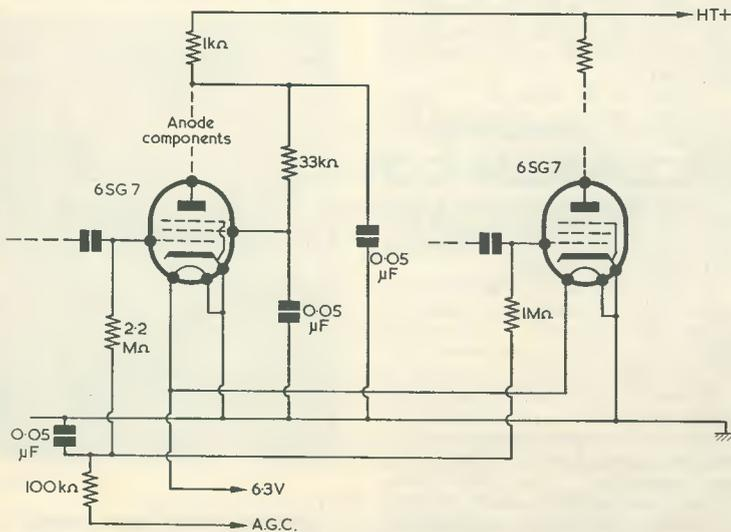
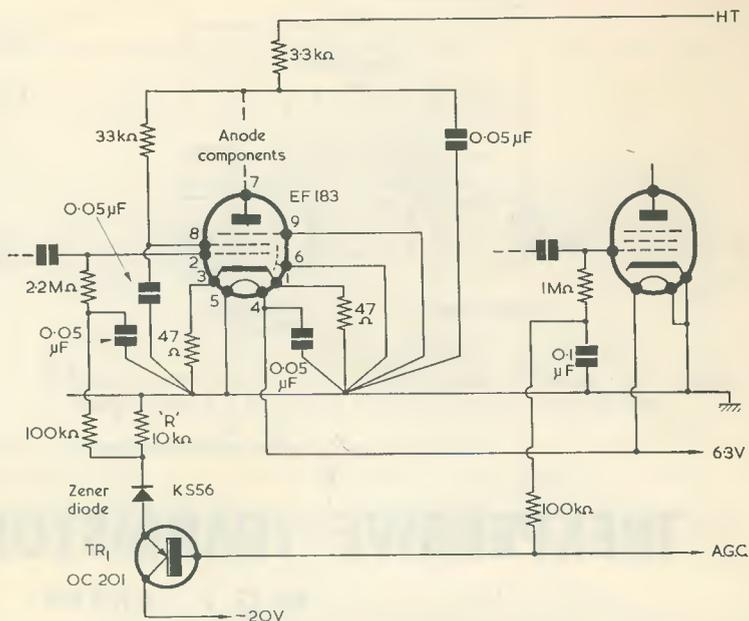
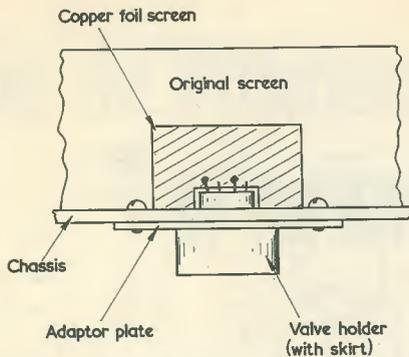

Fig. 1. The existing aerial r.f. amplifier stage in the AR88
Fig. 2. The modified circuit incorporating an EF183
Fig. 5. Side view of the screen assembly. The copper foil screen is cut to fit and sweated to the original screen and to pins 5, 6 and the spigot
Fig. 1 shows the original circuit and Fig. 2 the modified version. As can be seen, the a.g.c. and heater supplies have been rearranged, and the decoupling components and cathode circuit rewired to reduce feedback.
Fig. 1. The r.f. and i.f. section of the receiver. The numbers on  $L_1$  to  $L_4$  indicate the leads identified in the layout diagram of Fig. 5. Also indicated are the start (S) and finish (F) of each winding. It is most important that the oscillator coil, in particular, be connected as shown here
### Components List (Figs. 1 and 2)